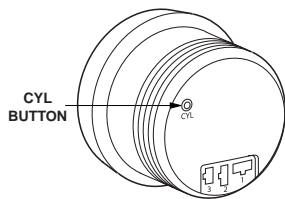

Figure 4
- Remove power from the tachometer (turn ignition switch off). Press and hold the **CYL** button (small RED button on rear of tachometer, see Figure 4), then apply power to the tachometer (turn ignition switch on).